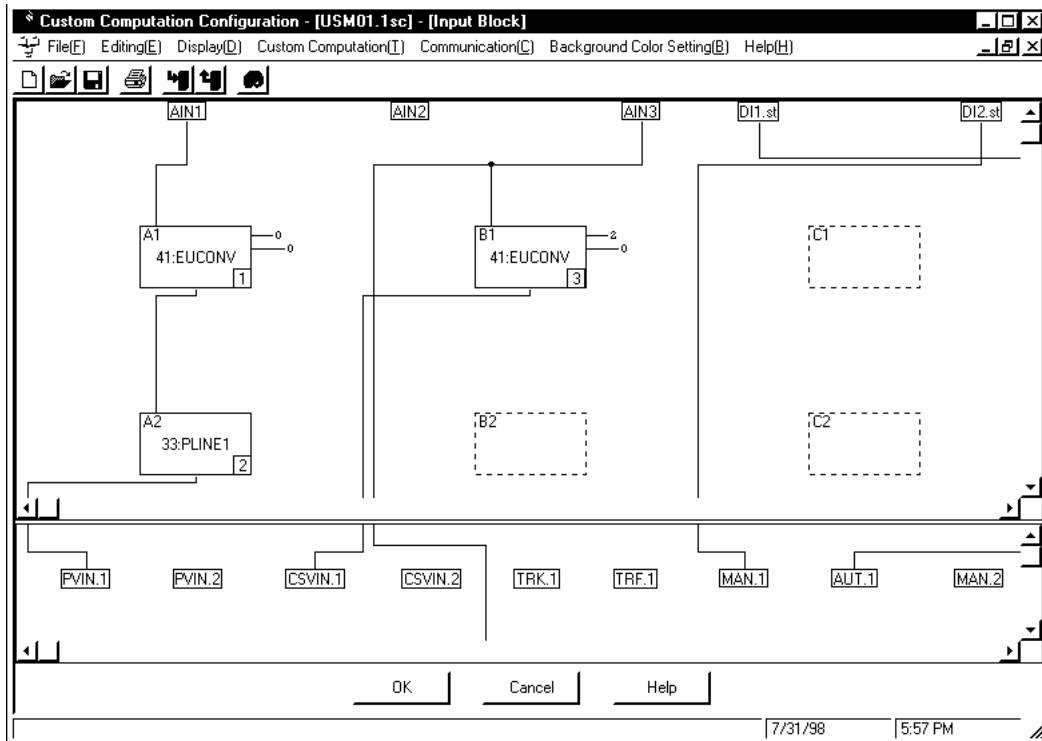

Figure 12.6.2 [Input Block] Dialog Box
- ① In the [Custom Computation Configuration Menu] dialog box (Figure 12.0.2), click <Input Block>. The [Input Block] dialog box (Figure 12.6.2) appears.